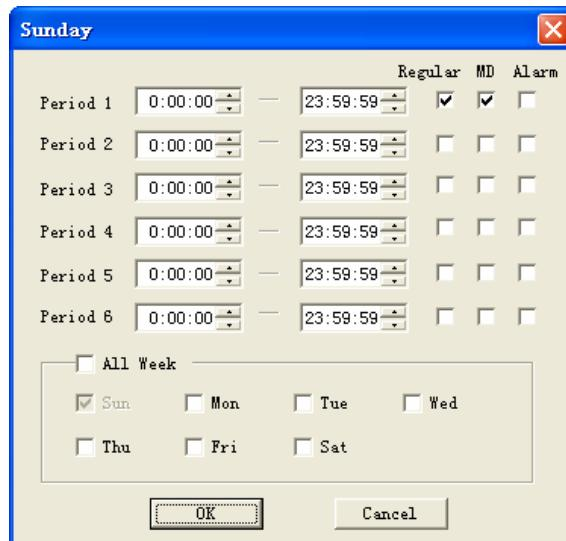

Figure 7-28
- ✧ Period: There are six periods for you to set. Please click set button of the corresponding period. See Figure 7-28. Please note all the setup here shall be in one day. E.g. 00.00 to 24.00.